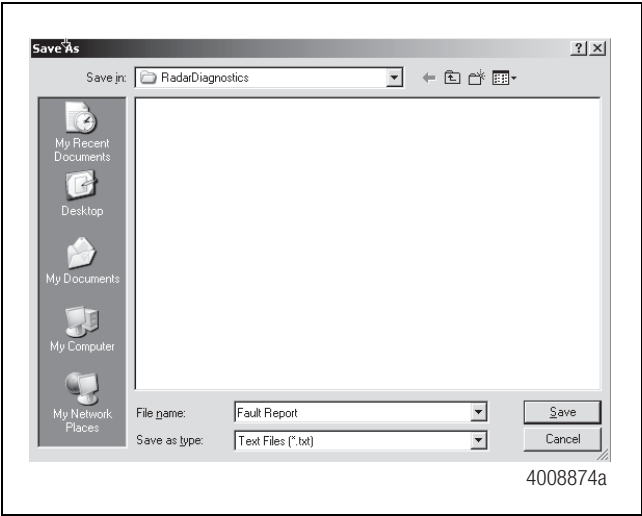
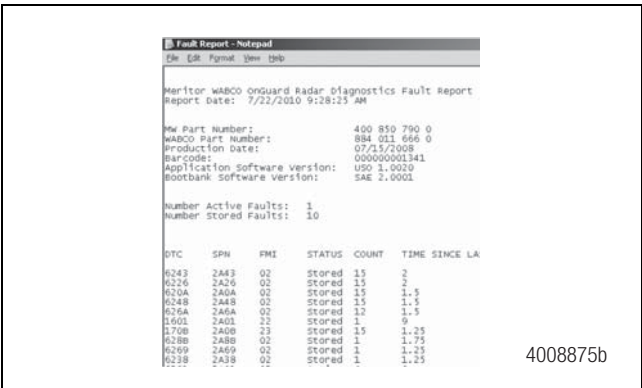

Figure 2.13
Figure 2.14
4. A fault report can also be generated by selecting the “Generate Fault Report” button, while in the “Diagnostic Trouble Codes” screen. A “Save As” screen will then come up asking you to name the file and select where it will be saved. Figure 2.13. The “Fault Report” screen provides additional information that is not included in the “Diagnostic Trouble Codes” screen. Figure 2.14.